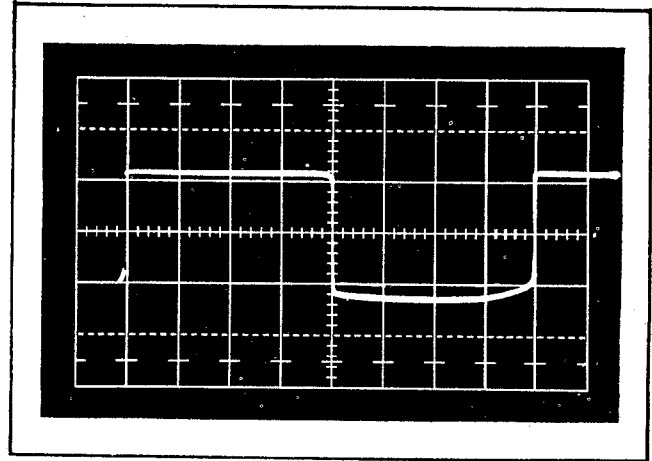
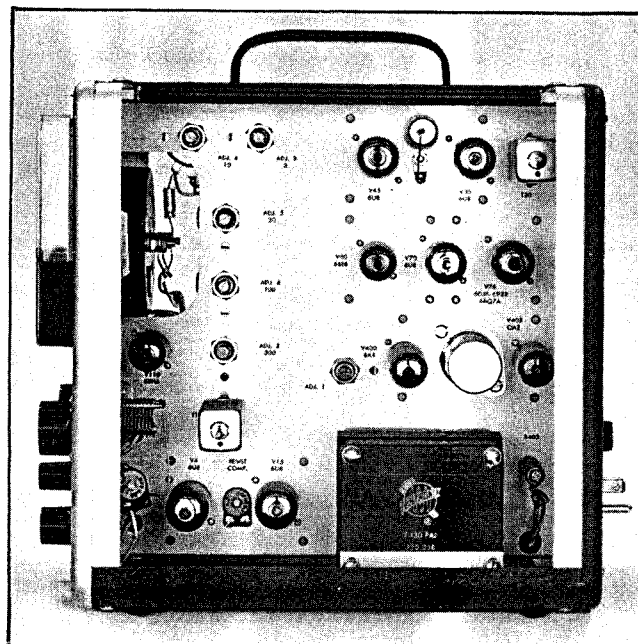

Fig. 6-7. Multivibrator waveform when adjusting symmetry.
Fig. 6-8. Adjustment controls located on the right side of the Type 130.
Position Trace begins as in Fig. 6-7.
c. Set the S-30 control to +300 pF and observe the test oscilloscope display. Adjust the test oscilloscope Position and Variable controls for a display of one cycle in 8 divisions like Fig. 6-7. If the multivibrator signal is not symmetrical (equal time both positive and negative), adjust R68 ADJ. 1 control for balanced symmetry. ADJ. 1 and other internal controls are shown in Fig. 6-8.
d. Set the S-30 control to 300  $\mu$ H. Note the meter reading. Adjust the Type 130 T1 screwdriver adjust slug (location shown in Fig. 6-8) to increase the meter deviation (error) from 300  $\mu$ H by a factor of three. Adjust T1 so the greater error is on the same side of 300  $\mu$ H meter reading as first noted.
b. Set the S-30 control to 1 MEG  $\Omega$  and note the meter change from its position when the S-30 control was at 100 k $\Omega$ . Use a non-conducting screwdriver and adjust C7 (shown in Fig. 6-8) for the same meter reading for both resistance positions of the S-30 control. It may be necessary to adjust a zero control to keep the meter reading near midscale. Adjust C7 while switching the S-30 control back and forth between the two resistance ranges.
b. Use a non-conducting screwdriver adjustment tool and adjust C2 (shown in Fig. 6-8) for a meter reading of 7.5  $\mu$  $\mu$ F. Turn the COARSE ZERO control slightly counterclockwise and check that the meter can still be zeroed.